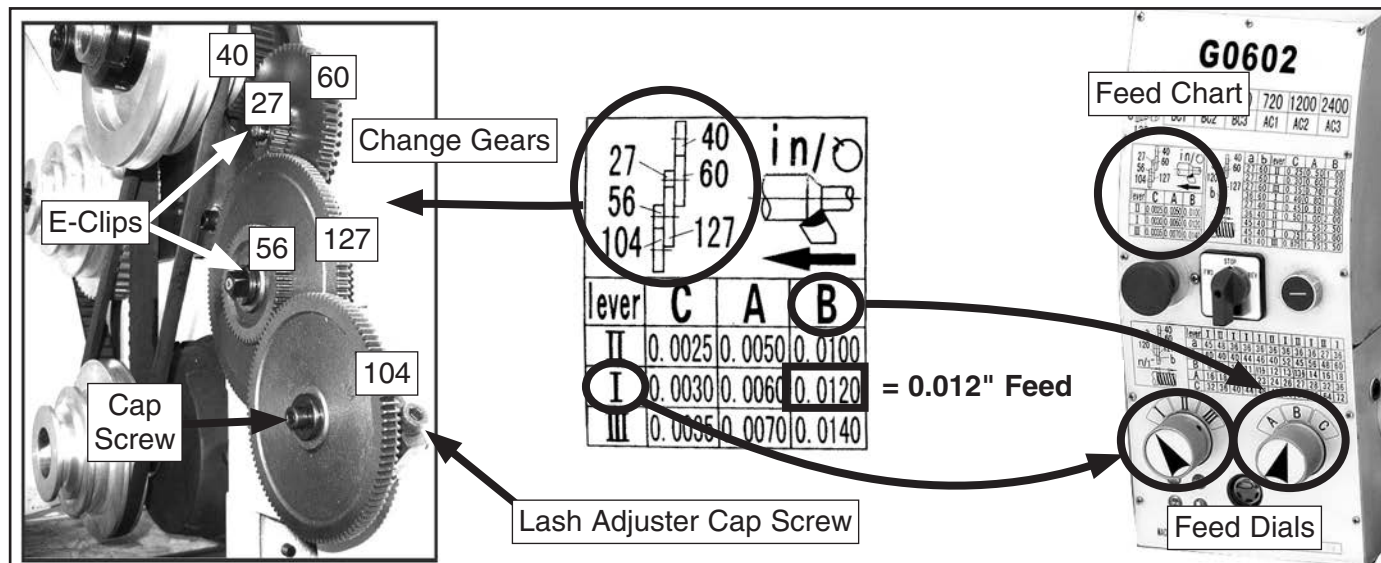

Figure 61. Power feed setup.
2. Turn the feed dials to the numeral and letter indicated by the chart in **Figure 61**.
3. Gather the required change gears, based upon the chart in **Figure 61**.
4. Remove the cap screw that secures the change gear cover, open the cover, then loosen the lash adjuster cap screw (see **Figure 61**) and swing the change gear assembly out of the way.
6. Lubricate the change gears (refer to **Page 55** for detailed instructions) and swap them out in the order shown on the chart in **Figure 61**, then re-install the E-clips and cap screw.
4. Open the change gear cover, loosen the lash adjuster (**Figure 61 on Page 45**) and swing the change gear assembly out of the way.